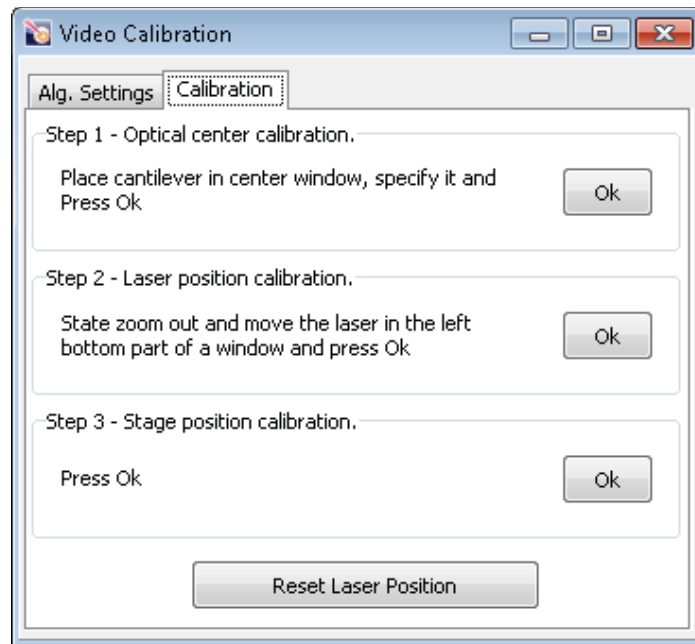
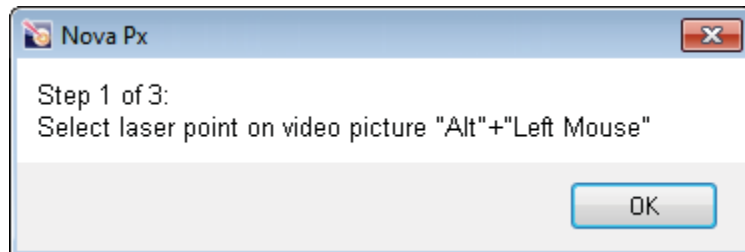

Fig. 7-7. Calibration
Fig. 7-12
The videosystem is adjusted through the **Video Calibration** window that opens by the **Tools → Motors → Video Calibration** menu command (Fig. 7-7). The **Calibration** tab provides three panels, which are related to successive step of the adjustment procedure.
5. Open the **Video Calibration** window by selecting the **Tools** → **Motors** → **Video Calibration** Main Menu command. Go to the **Calibration** tab (Fig. 7-7).
10. In the **Step 2** panel of the **Video Calibration** window (Fig. 7-7) click the **OK** button. A request for pointing to the laser spot in the videoimage will appear (Fig. 7-12), close this box by clicking the **OK** button.
2. In the **Step 3** panel of the **Calibration** tab (Fig. 7-7), click the button. A request on pointing to a relevant point in the videoimage will appear (Fig. 7-18), close this box by clicking the **OK** button.